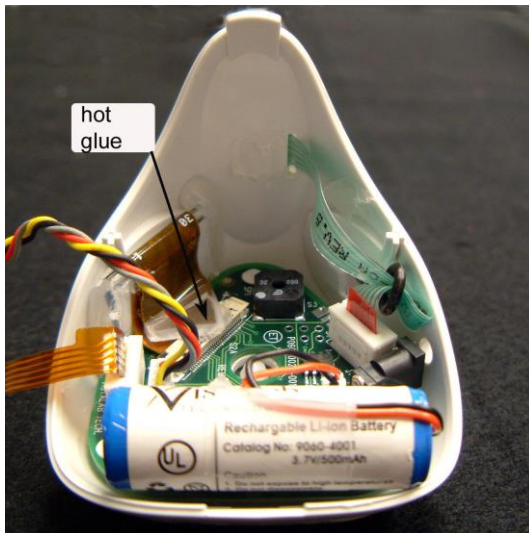
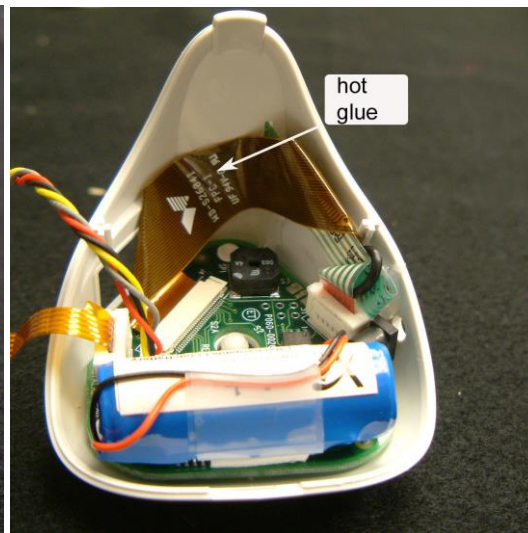

Figure 12 Final Wire Routing for Standard (Right-Hand) LCD Location
Figure 13 Final Wire Routing for Left-Hand LCD Location
5. Connect the cables as shown in Figure 12 for a Standard Unit or in Figure 13 for a Left-Hand unit. Seat the connector locks as required. Install the battery and test.